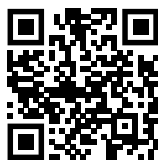

Fig. 128
- ▶ Åbn Liebherr SmartMonitoring Dashboard. (se Fig. 128)